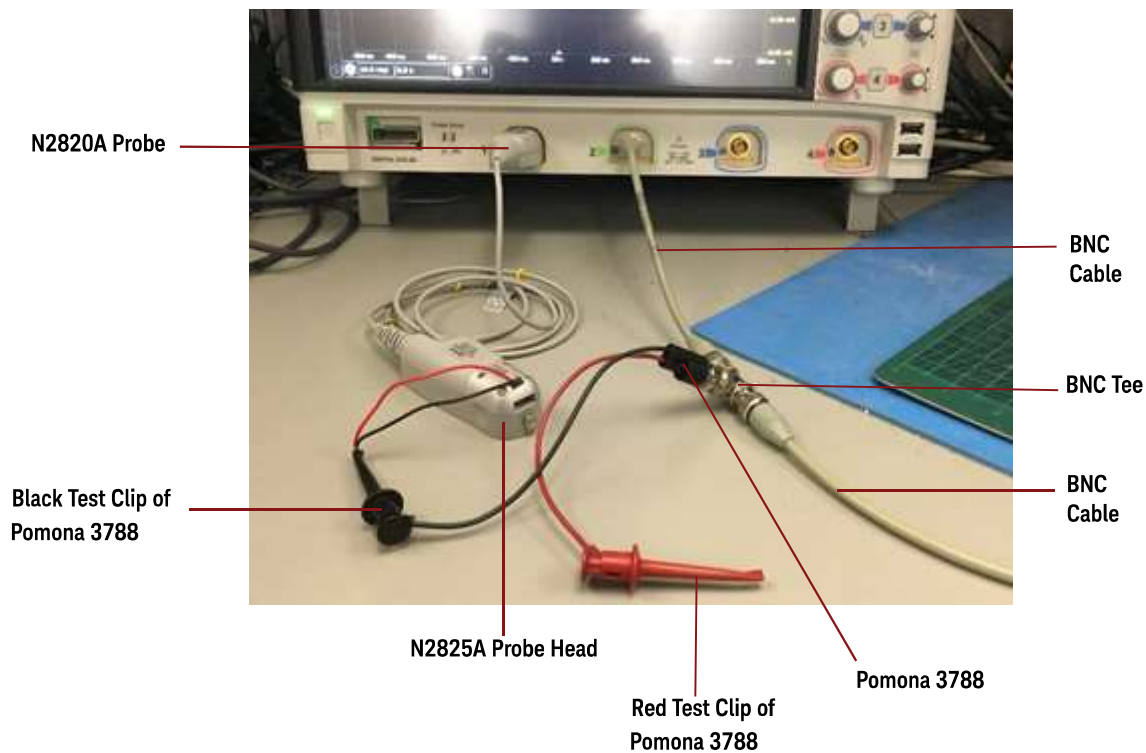

Figure 30 Example of Initial Calibration Setup
- 4** Connect the equipment as shown in **Figure 30** on page 67. Observe the following requirements:
- Connect the Pomona 3788 to two BNC cables using a BNC tee. Then connect one of these BNC cables to a scope channel and the other BNC cable to the Aux Output BNC connector located on the Oscilloscope's rear-panel (as shown in **Figure 30**).
- Connect both the N2825A's sensor leads (red and black wires) to the black test clip of the Pomona 3788 as shown in **Figure 30**.